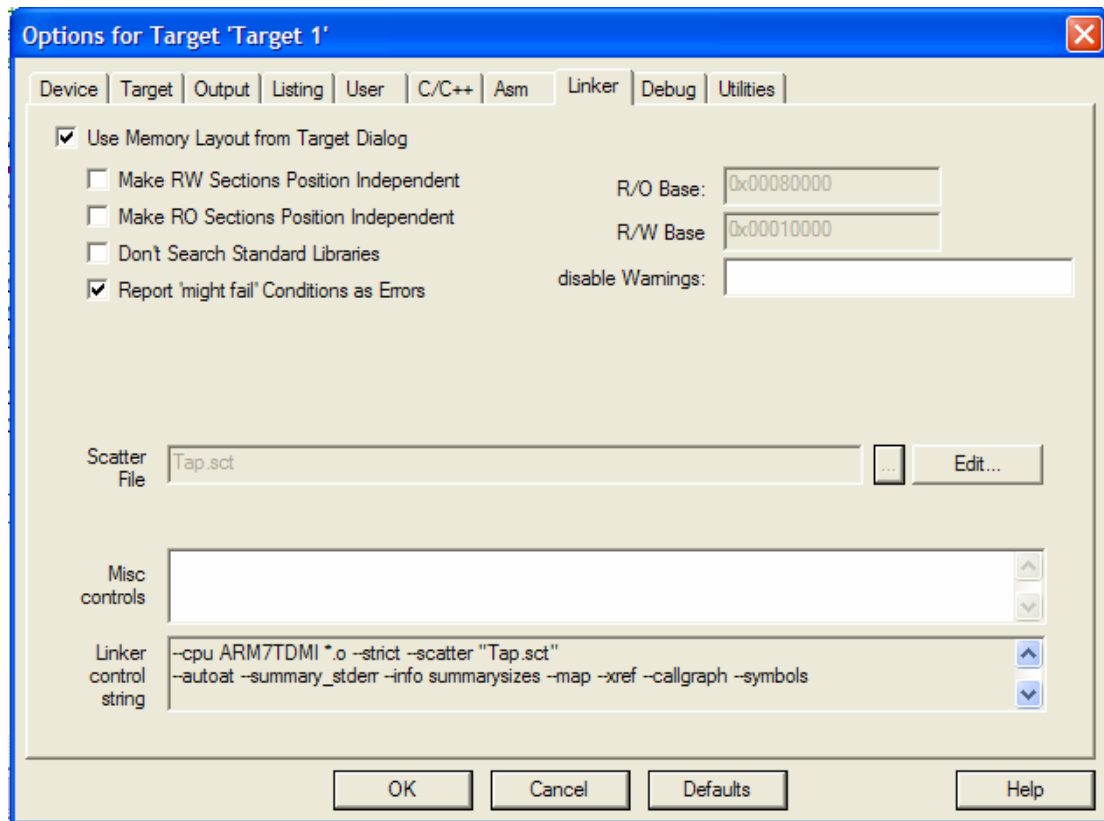

Figure 7
(3) Tick the Use Memory Layout from Target Dialog in the Linker window as figure 7 shows.